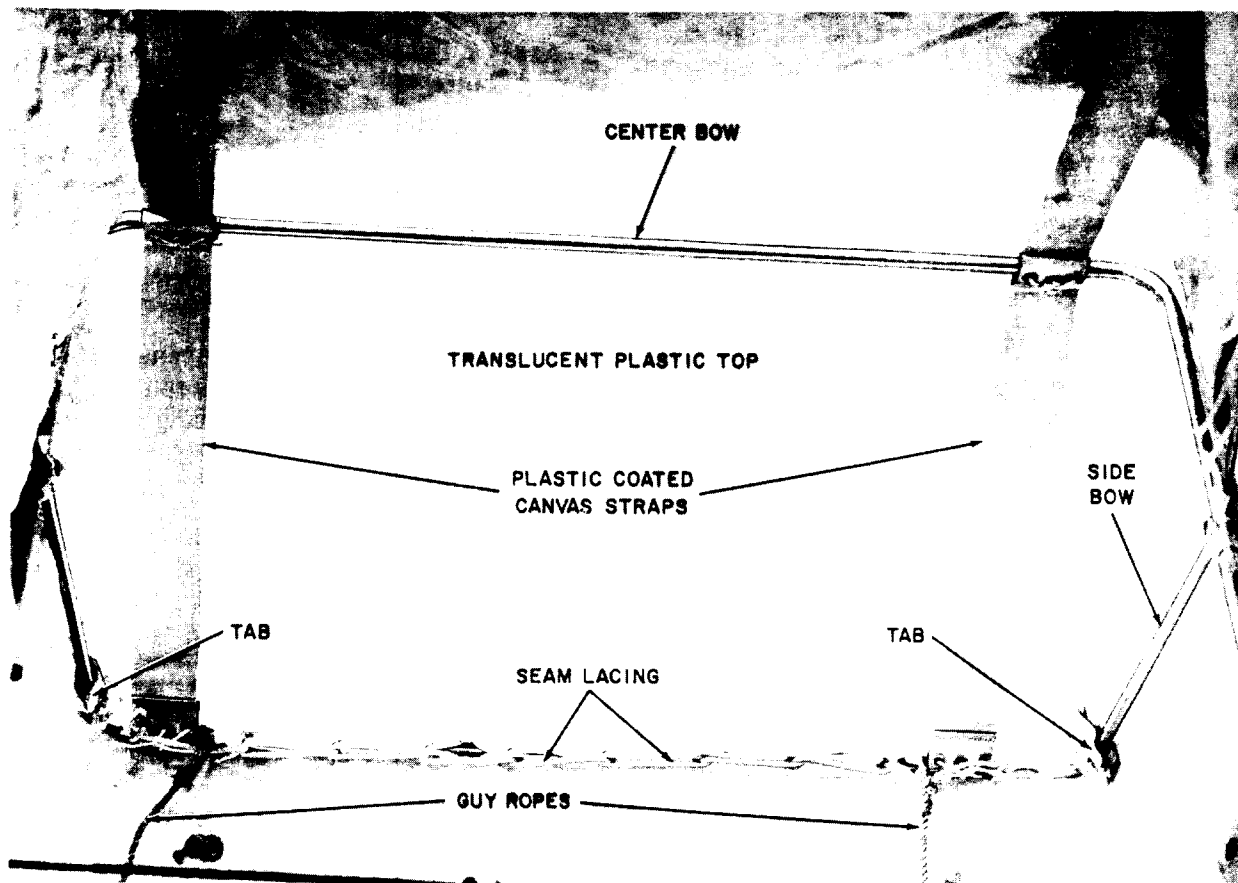

Fig. 7 — Method of Lacing Cover and Straps to Bows
- (b) On each side bow, tie the two tabs and lace the seam with lacing rope as shown in Fig. 7. A 1-foot piece of rope is required for each tab and a 6-1/2 foot piece for each seam.
7.03 To install new plastic coated canvas straps, lace each strap to each of the three bows (Fig. 7). A piece of lacing rope approximately 2 feet long is required for each lacing.